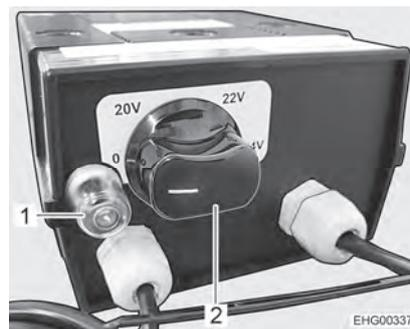

Fig. 126 Regulator for electrical floor warming unit
- Turn the control knob (Fig. 126,2) to the required heating level.
- Turn control knob (Fig. 126,2) to "0" position.
If the regulator is overloaded, the overload protection is actuated. The pin (Fig. 126,1) jumps out.
- Press the pin (Fig. 126,1) on the overload protection when the regulator is cooled.